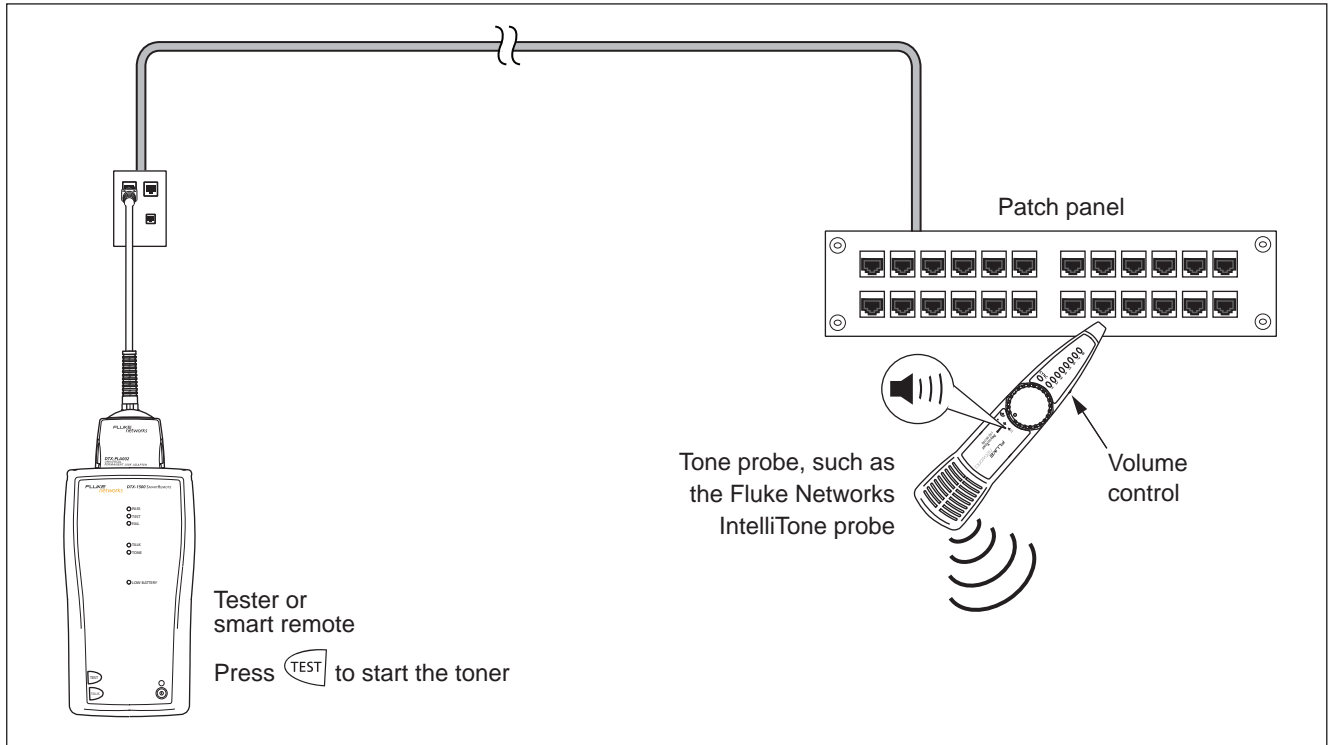

Figure 3-25. Using the Tone Generator
- 2 Connect the tester or smart remote to the cabling as shown in Figure 3-25.